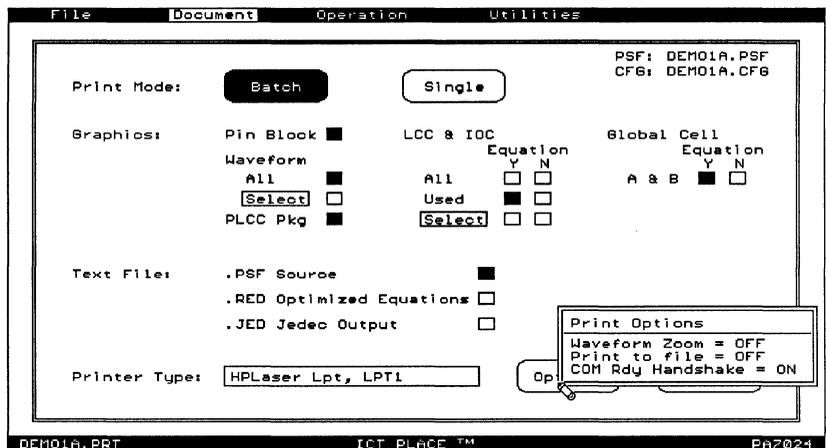

Figure 4-60, "Options" command
- Options Selects additional printing options (Figure 4-60).